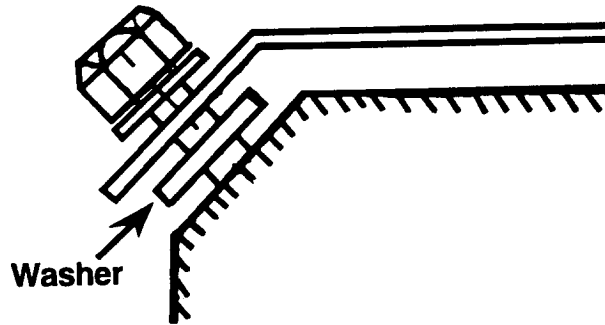

Figure 3
- 3) Insert a washer between the slide rail bracket and the floor as shown in drawing. (Refer to Figure 3.)
- 3) Insert a washer between the slide rail bracket and the floor. (Refer to Figure 3.)